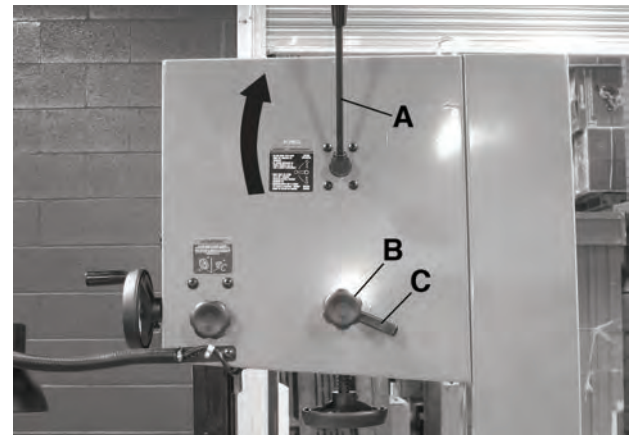

FIGURE 11
4. To quickly release blade tension, Pivot the quick release blade tension lever (A) Fig.11 upwards as shown.
7. Place blade in the middle of the upper and lower blade wheels, tension the blade by pivoting the quick release blade tension lever (A) Fig.11 downwards.
2. If the saw blade is not tracking properly, loosen the fixed handle (C) Fig.11 and turn blade tracking adjustment knob (B) (1/2 turn increments) clockwise if the blade moves towards the front of the wheel or counterclockwise if the blade moves towards the back edge of the wheel. Once the blade is tracking properly, tighten the fixed handle.